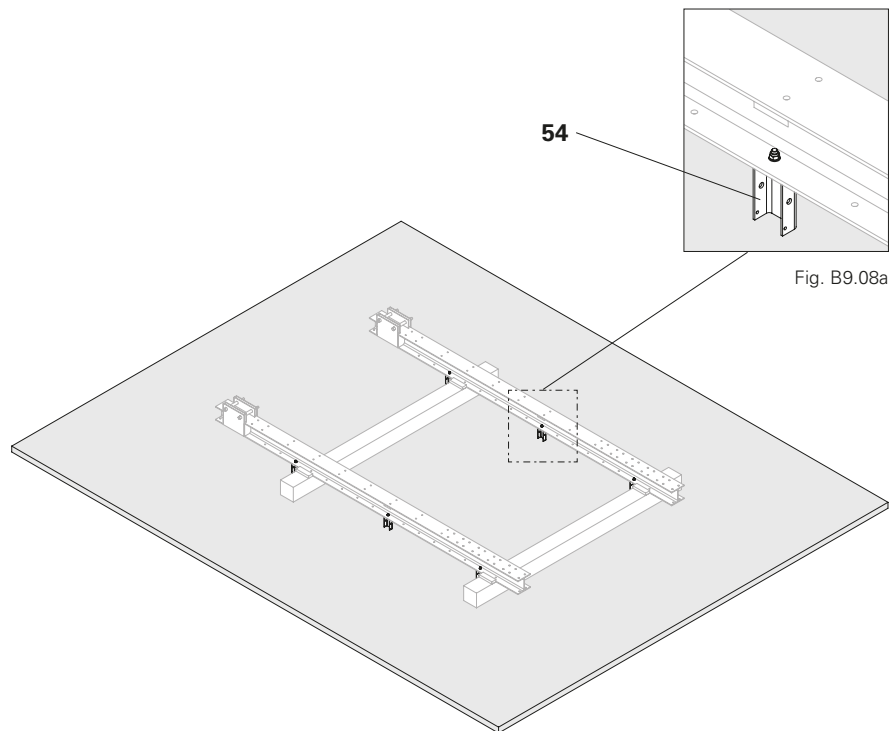

Fig. B9.08
2. Bolt the Ladder Cage Connection VT 20 ACS (**54**) at the installation position with the fixing materials provided. (Fig. B9.08 + B9.08a)